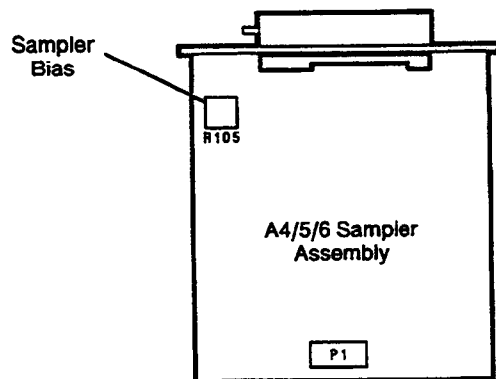

Figure 18. Sampler Diode Bias Adjustment Location
*This adjustment is not present and therefore cannot be performed on some HP 8753Bs. See Figure 18 for the location of the bias adjustment.